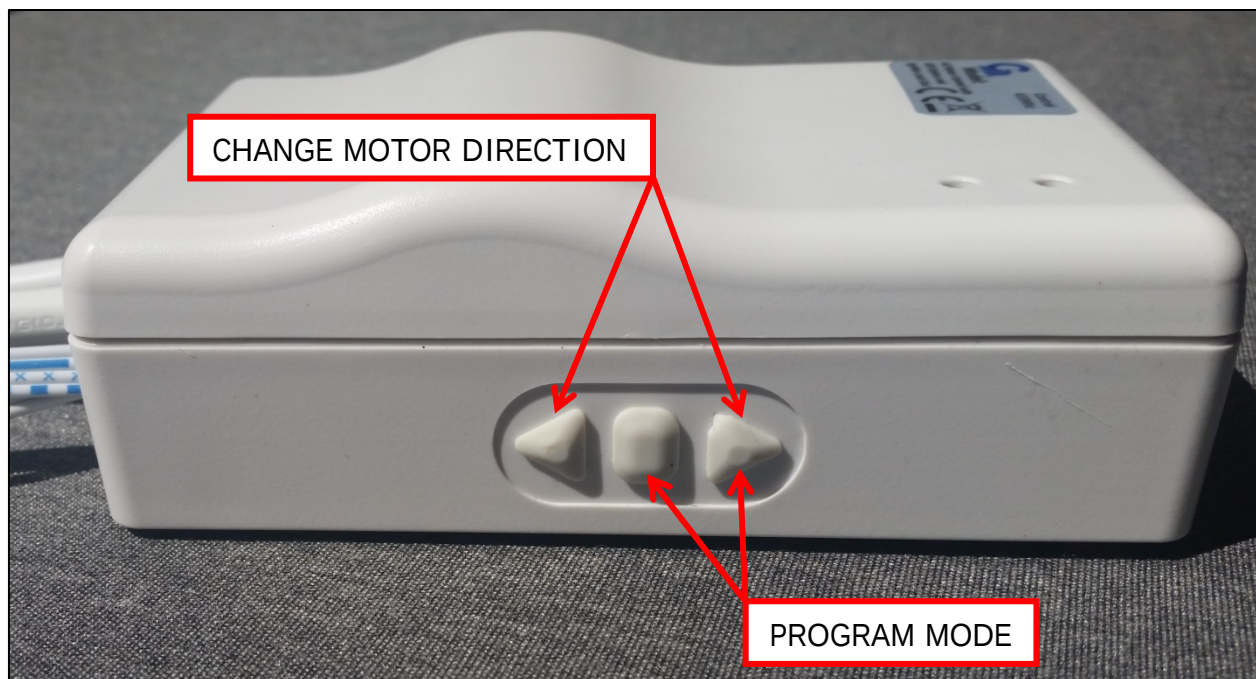

Fig.3
- b. Press and hold the **MIDDLE** and **RIGHT** buttons on the GC274B-CR (Fig 3) for about 3 seconds until the Green LED starts to flash.